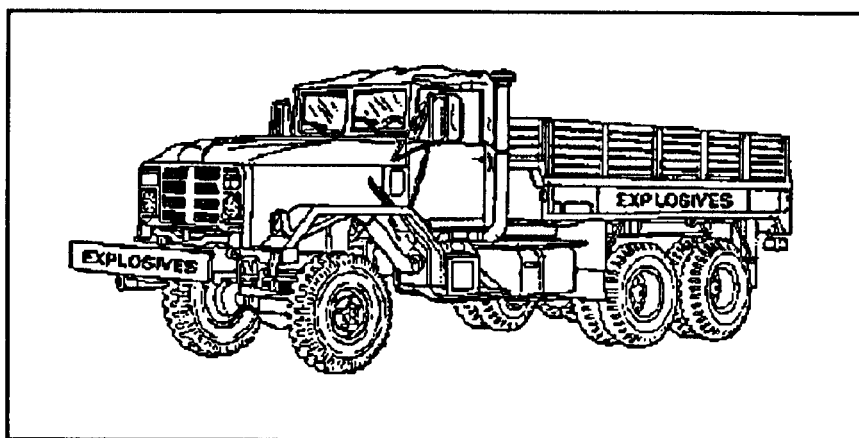

FIGURE 19-3. Placarding a Vehicle.
- Once the vehicle passes inspection, attach the proper placards to the vehicle front, rear, and sides to identify its cargo (Figure 19-3). (Use bilingual placards when outside of CONUS.)